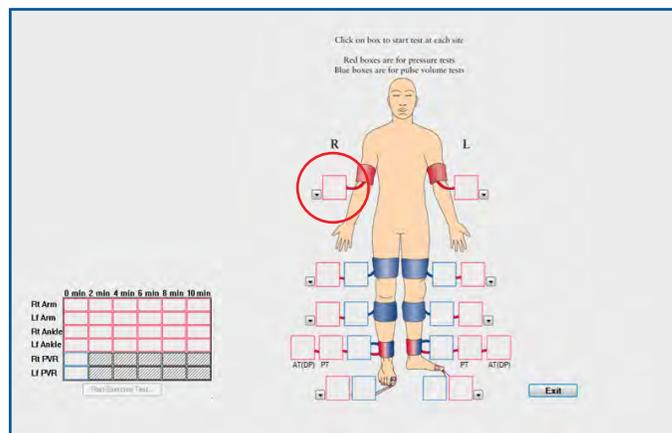

FIGURE 1.40 - Right Brachial Box
5. Click inside the Right Brachial box to begin the test with Doppler enabled pressure testing (Figure 1.40).